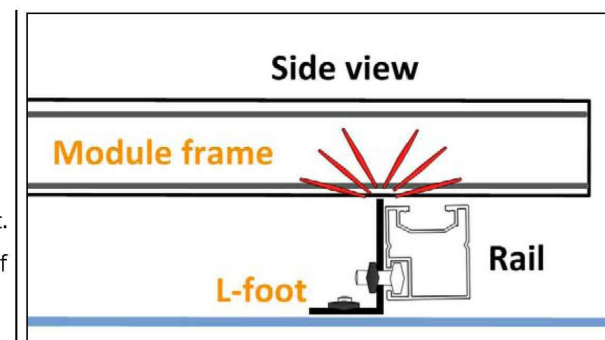

Fig. 20
**Important!** If an L-foot in its final installed position extends *above* the top surface of the rail, you must ensure that the L-foot *does not contact any part of the module or module frame* (Fig. 20).